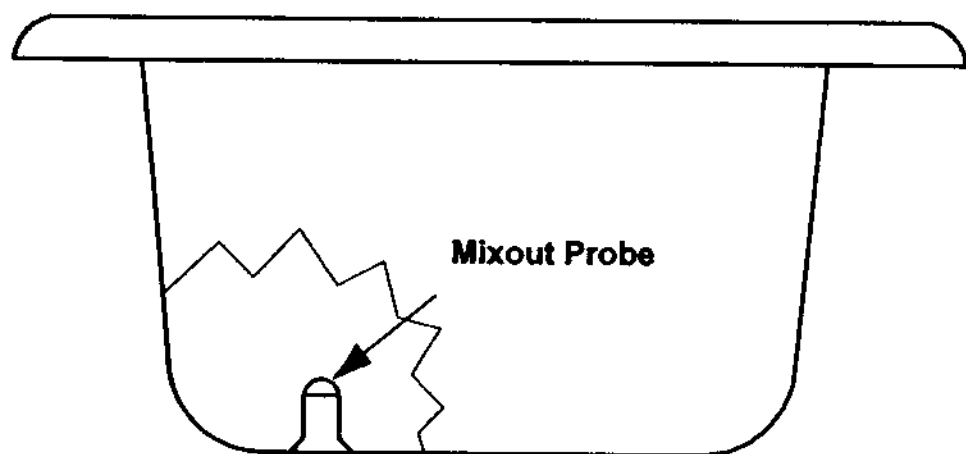

Fig. 20
3. **DO NOT** apply lubrication to the Mix out probe located in the mix pan - see Fig. 20.
- Slide the lubricated spigot plungers into the front plate (Fig. 20) making certain that the spigot handle slots are aligned to the front of the front plate. The spigot plunger with the double o-ring must be installed in the center cylinder of the front plate.